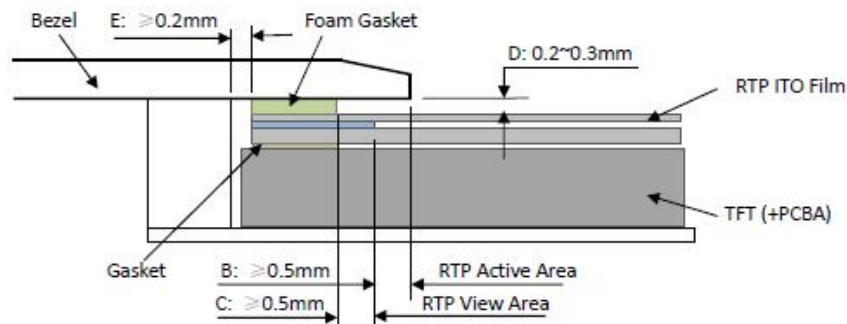

Figure 4
- It should bezel touching the RTP Active Area (A.A.) to prevent abnormal touch. It should left gap $D=0.2\sim 0.3\text{mm}$ in between. (Figure 4)
- 为避免面框直接压在动作区 (A. A.) 上造成误动作, 面框与电阻触摸屏 (RTP) 之间应留有一定的空隙 $D=0.2\sim 0.3\text{mm}$ 之间. (附图 4)
(between the bezel and RTP). The suggested figures are $B \geq 0.50\text{mm}$; $C \geq 0.50\text{mm}$. (Figure 4)
- The bezel side wall should keep space $E = 0.2 \sim 0.3\text{mm}$ from the RTP. (Figure 4)
垫圈内边缘到 V. A. 区的距离 $C \geq 0.50\text{mm}$. (附图 4)
- 在设计面框与 RTP 组装时, 应考虑到面框内侧与 RTP 外侧的间距 $E \geq 0.2\text{mm}$. (附图 4)